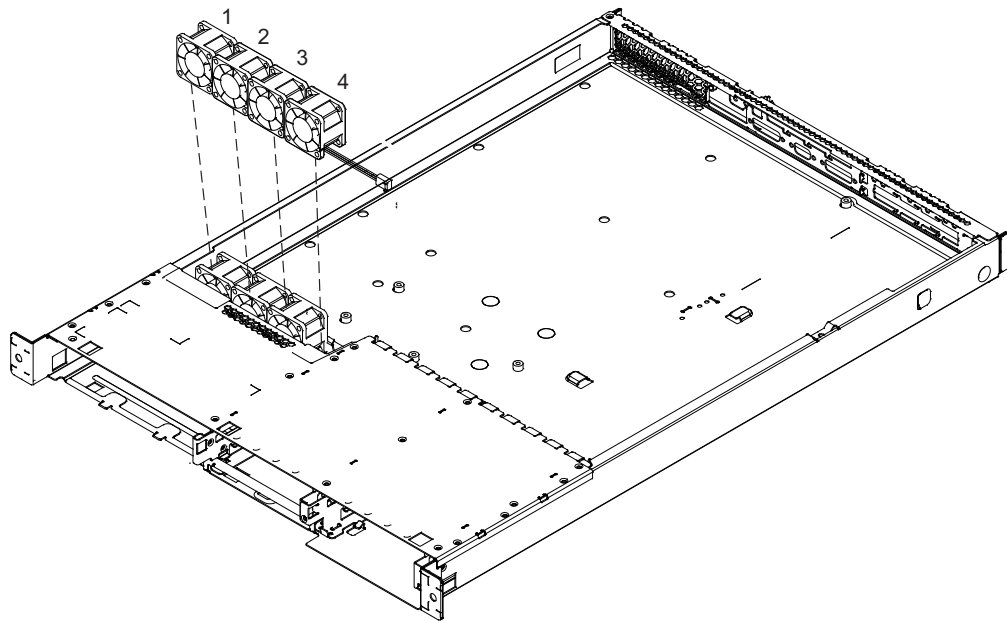

Figure 99. Removing a microprocessor fan
4. Refer to Figure 99.
6. The fans are numbered from one to four, from left to right. See Figure 99. Lift the fan upward out of the retaining clip.